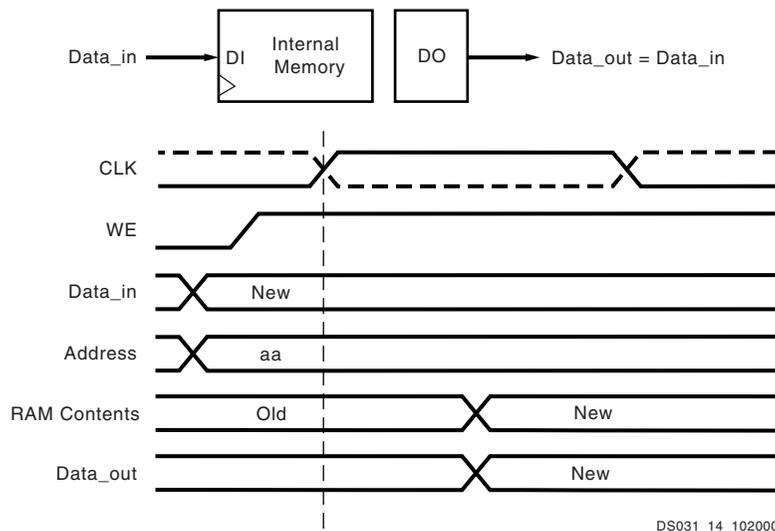

Figure 31: WRITE_FIRST Mode
The "WRITE_FIRST" option is a transparent mode. The same clock edge that writes the data input (DI) into the memory also transfers DI into the output registers DO as shown in Figure 31.